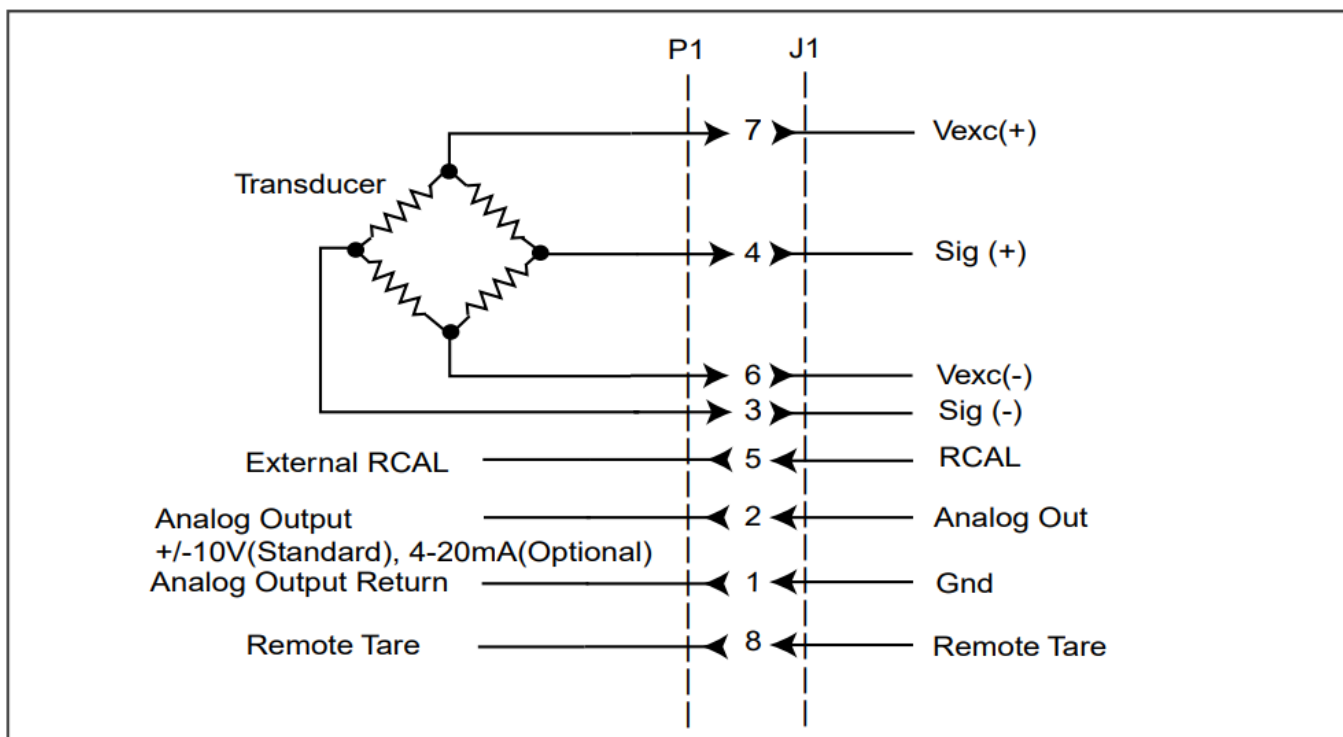

Figure 3. Transducer Wiring
- To wire the transducer, follow the instructions in Figure 3 for transducer wiring information.
Reference Figure 3 for TRANSDUCER wiring information. Power is applied with a 3-prong AC power cord. The instrument is protected by a 250V, 250mA fast acting 5mm fuse. The fuse holder is an integral part of the input power connector. A spare fuse is provided in the fuse holder. Internal solder jumpers are provided to allow 115V AC or 230VAC operation (Reference Figure 6 on page 5).
Reference Figures 3 and 4 for proper input and output signal wiring.
1. The first method uses actual or simulated ZERO and FULL SCALE (FS) inputs. Actual inputs may come from a strain gage transducer loaded with calibrated weights. Simulated inputs may come from a strain gage bridge simulator.
2. The second method utilizes an RCAL resistor to simulate a load on a strain gage bridge. The RCAL resistor is activated when the RCAL (S5) switch is depressed. Reference Figure 3 for location of S5.
1. Connect the strain gage transducer to the instrument using Figure 3 as a reference. Do not apply any load to the transducer.